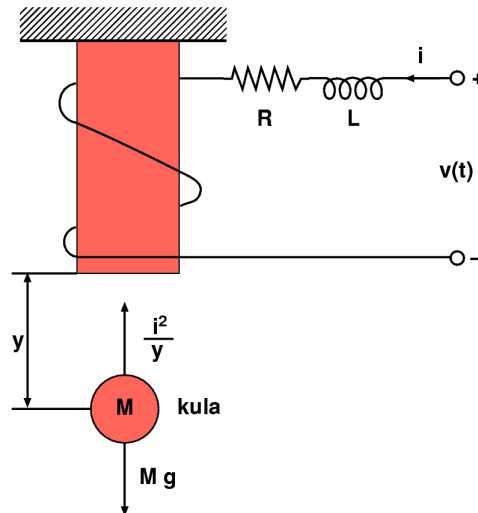

Figure 5.2 Magnetic levitation device
- 5.5 (Extra)** A magnetic levitation device is depicted in Figure 5.2. The purpose of the device is to make the ball float in the air by adapting the voltage